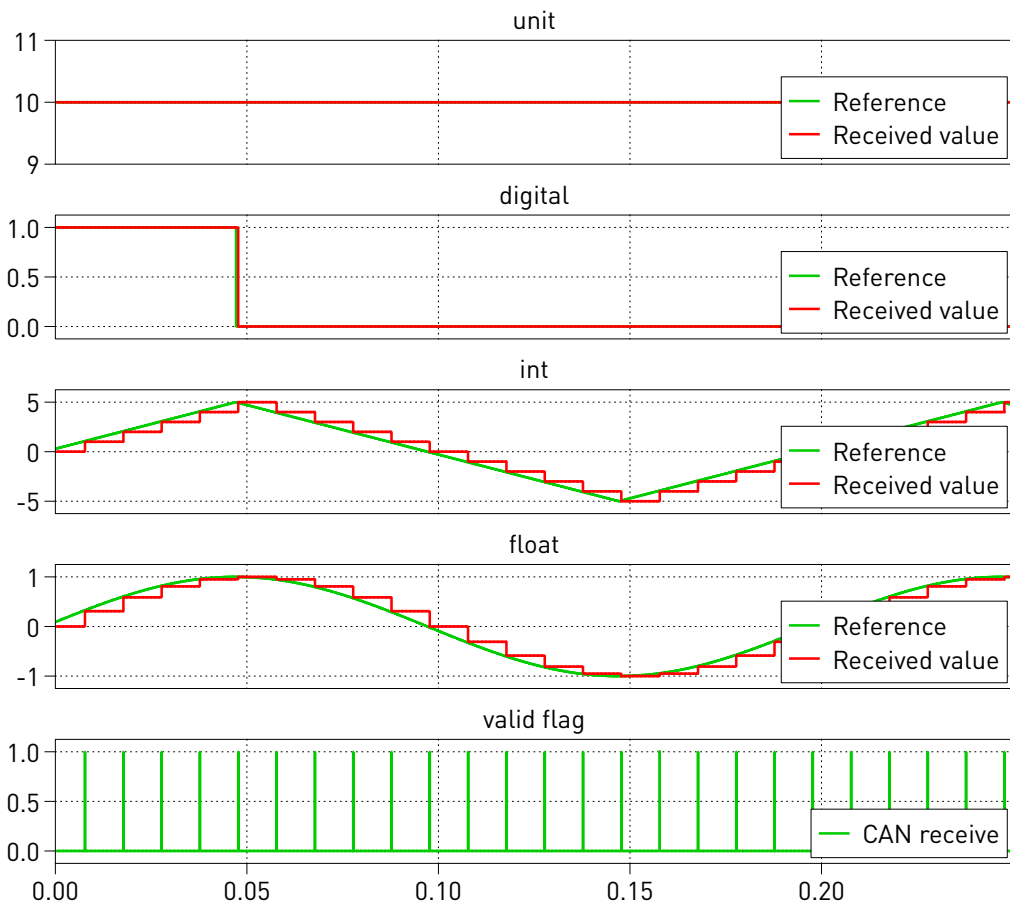

Figure 6: Real-time waveform showing the four received signals after CAN loop-back test
Build the “RT Box” model onto the RT Box. Once the model is uploaded, from the **External Mode** tab of the **Coder options...** window, **Connect** to the RT Box and **Activate autotriggering**. The real-time simulation results are shown in Fig. 6.
- The first signal received is an unsigned integer with a value of 10. By changing the Constant value in front of the CAN Pack block to another value (for example: from 10 to 20) during run-time, one should see the change reflected on the first received signal of the Scope in Fig. 6 immediately.